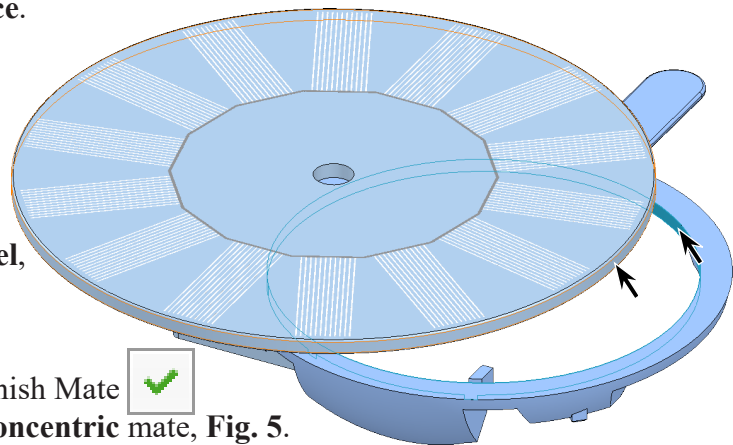

Fig. 4
Step 4. Click **cylindrical face of Deck** and **cylindrical face of Solar Panel**, **Fig. 4**.